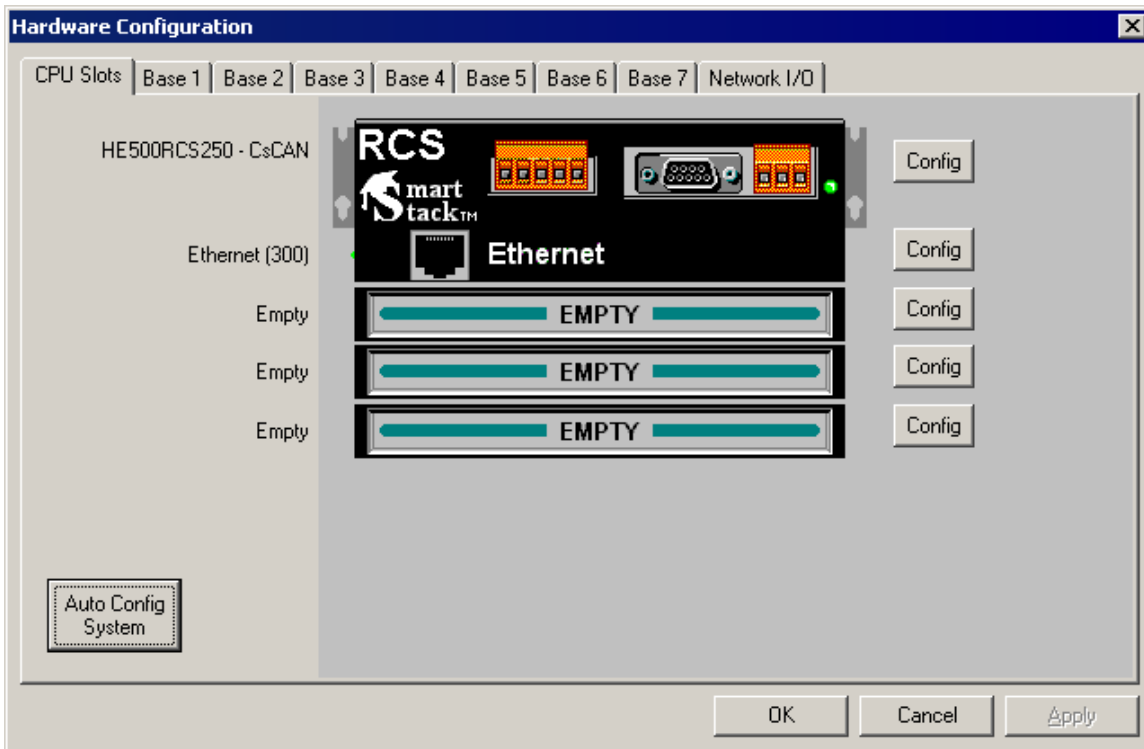

Figure 3.4– Hardware Configuration Dialog – User-Installed Ethernet Module
- c. Click **OK**. The Ethernet Module is now configured into an I/O slot, as shown in Figure 3.4.